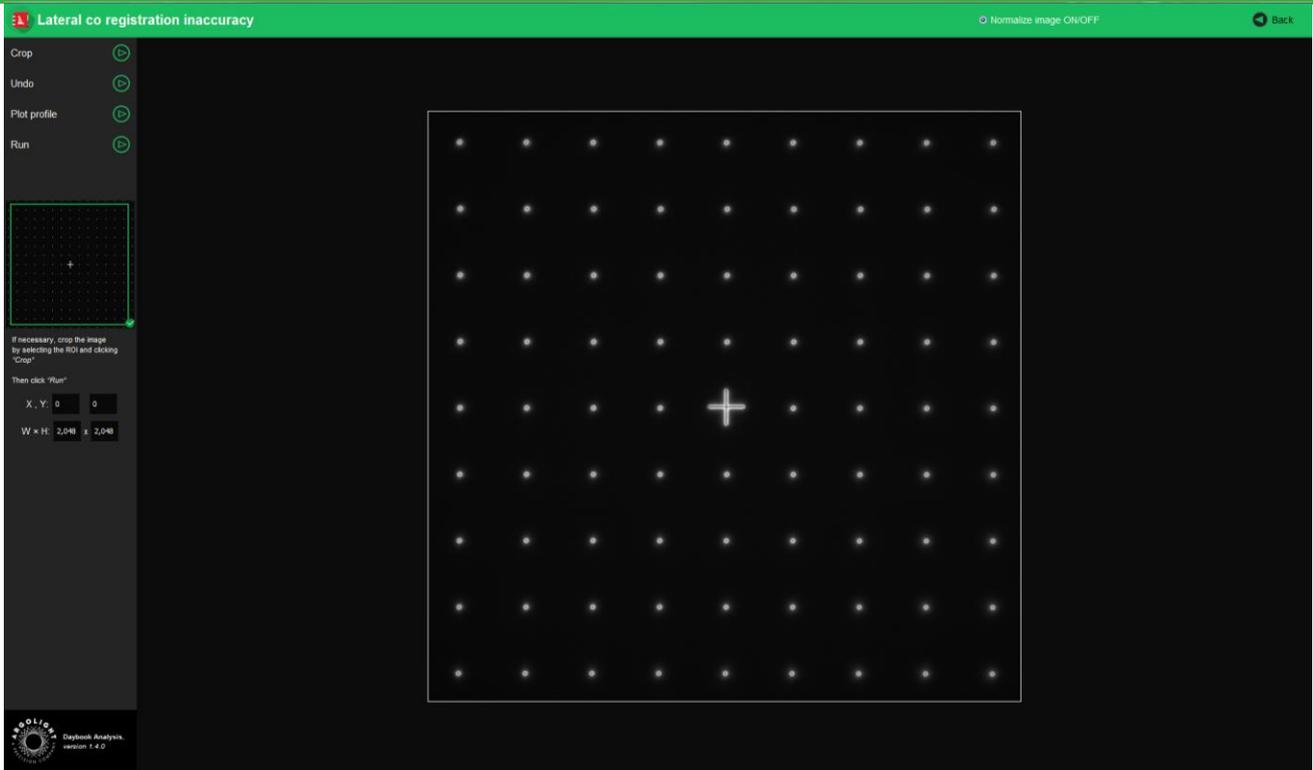

Figure 2: Crop window.
- e) By default, if one of the rows (or columns) of rings is incomplete or cropped, it will be discarded from the analysis. If needed, select a region of interest (ROI) and click on “Crop” to crop the image (*cf.* Figure 2).